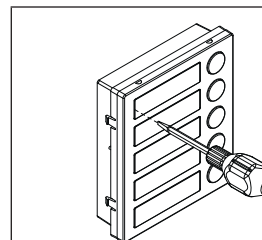

Fig. 7
- Insert the screwdriver (flat side) into the card-holder hole as shown in Fig. 7;